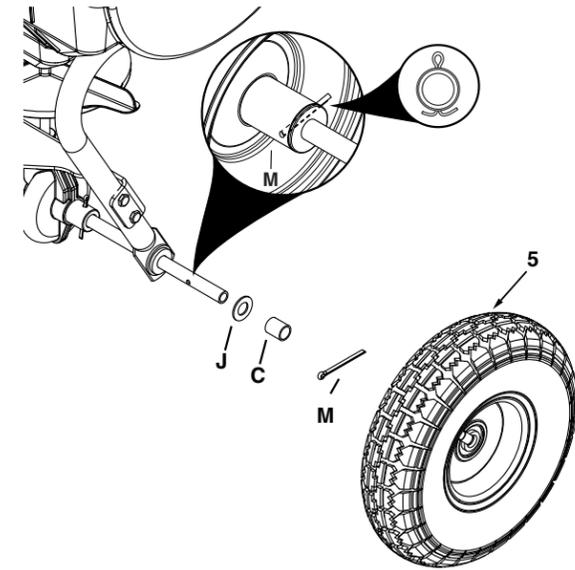

Figure 6
STEP 6 (SEE FIGURE 6): Slide a washer (J), a spacer (C), and a wheel (5), onto the left end of the axle. Secure with a cotter pin (M) by sliding it through the hole in the wheel hub (facing in) and the hole in the axle and bending the ends.